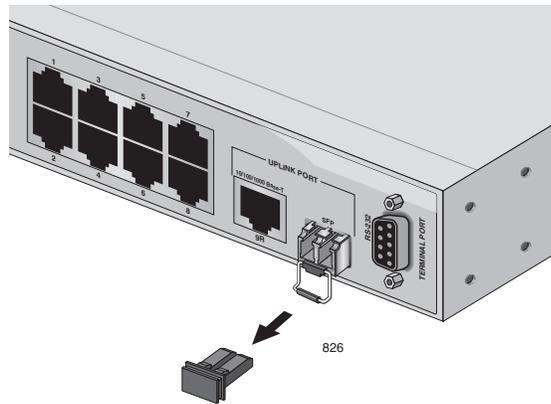

Figure 12. Removing the Dust Cover from the SFP.
1. Remove the dust plug from the SFP, as shown in Figure 12.